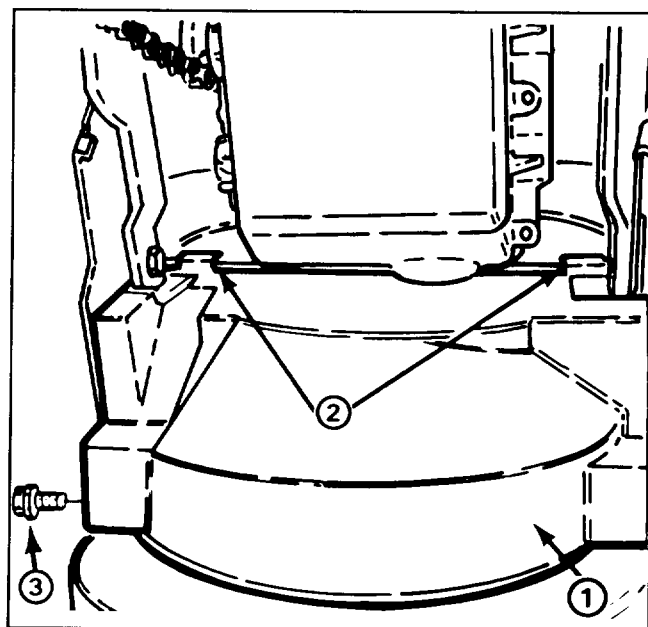

Figure 2
- 5. Mounting screws (2)
7. Mount lower belt cover to underside of auger housing and engine frame with (2) 1/4-20x1/2" lg. flange head capscrews (Fig. 2). Make sure belt cover mounting tabs are positioned to rear of engine frame member.